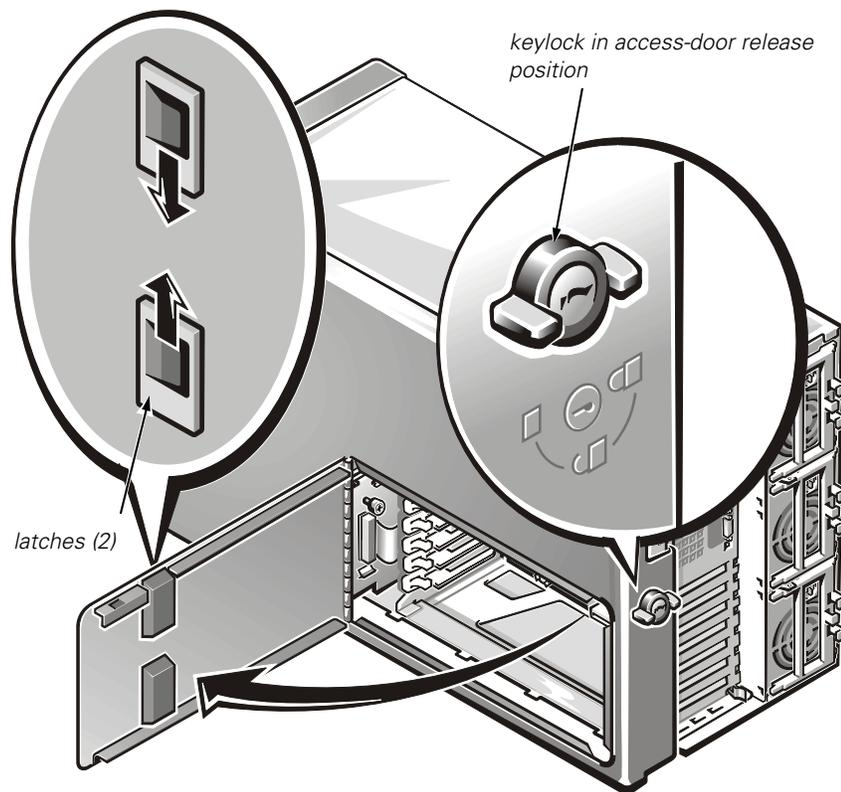

Figure 4-18. Expansion-Card Access Door
- 1. Unlock the keylock, remove the key, and then turn the keylock to the access door release position (see Figure 4-18).**